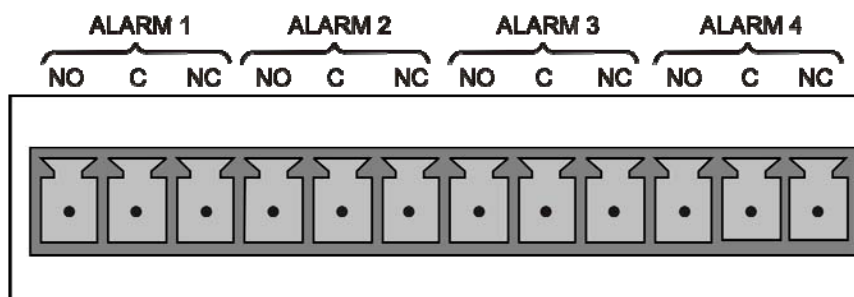

Figure 5-19: Concentration Alarm Relay
The Teledyne Monitor Labs analyzers have an option for four (4) “dry contact” relays on the rear panel of the instrument. This relay option is different from and in addition to the “contact closures” that come standard on all Teledyne Monitor Labs analyzers. The relays have three (3) pins that have connections on the rear panel (see Figure 5-19). They are a Common (C), a Normally Open (NO), and a Normally Closed (NC) pin.